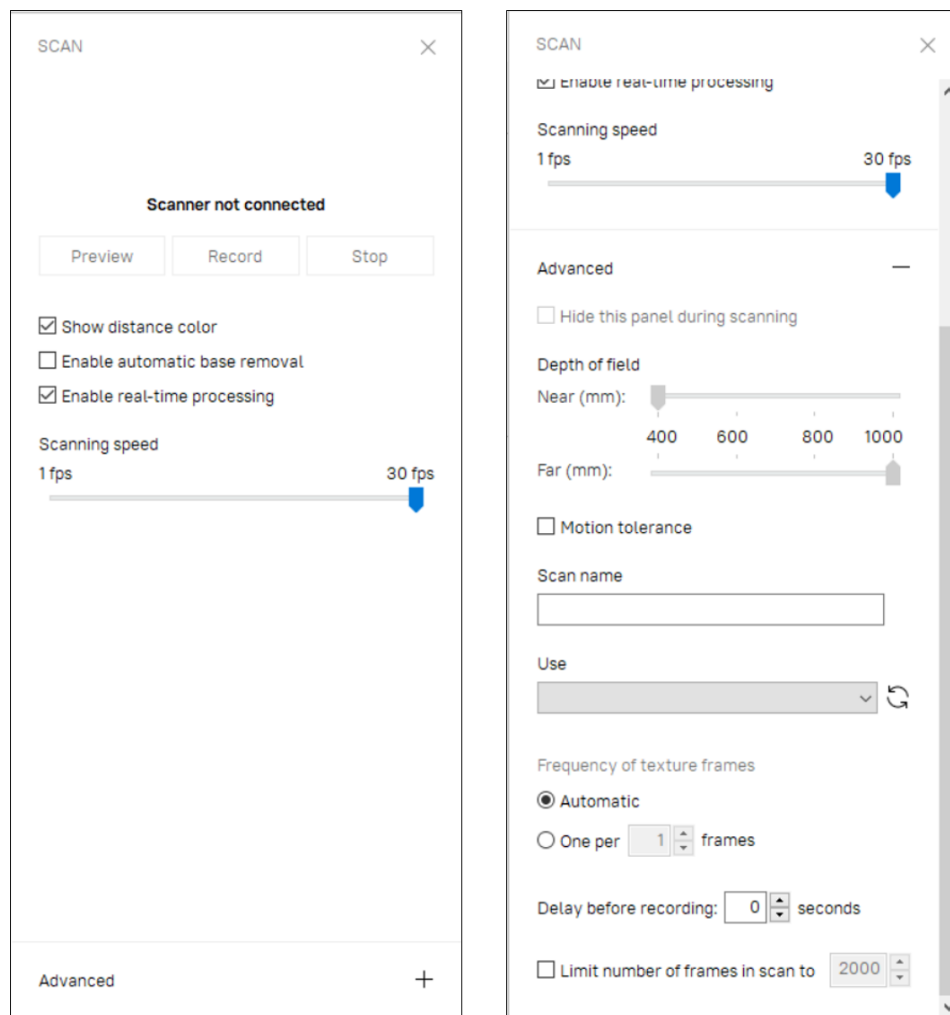

Figure 56: *Scan* panel: *Advanced* section hidden (on the left) and revealed (on the right).
1. Check the *One per ... frame* radio button (see Figure 56, right).